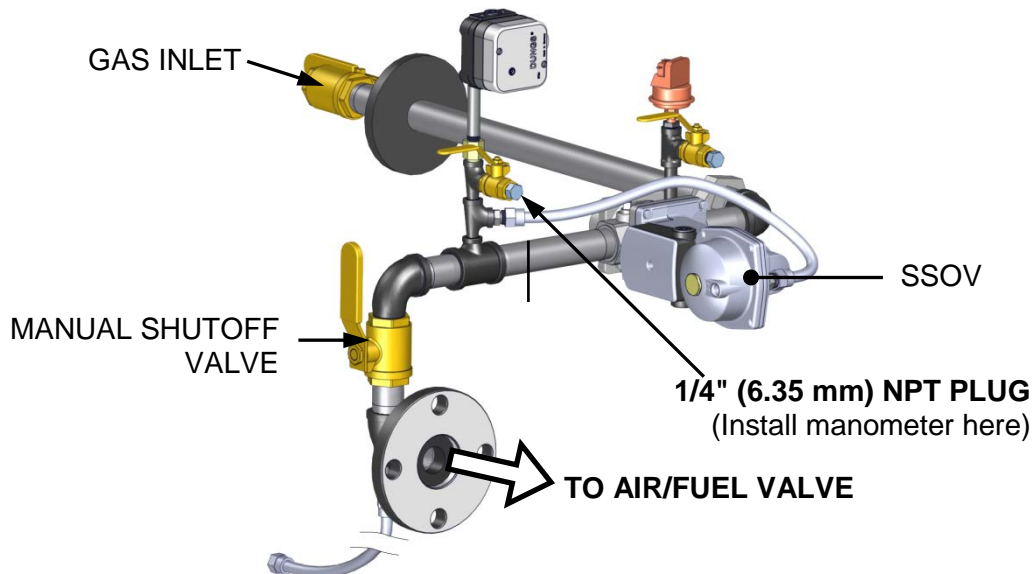

Figure 4-1. 1/4 Inch Gas Plug Location (INN600 – 1060 Gas Train Shown)
3. Remove the 1/4 inch NPT pipe plug from the leak detection ball valve on the downstream side of the Safety Shut Off Valve (SSOV) as shown in Figure 4-1.